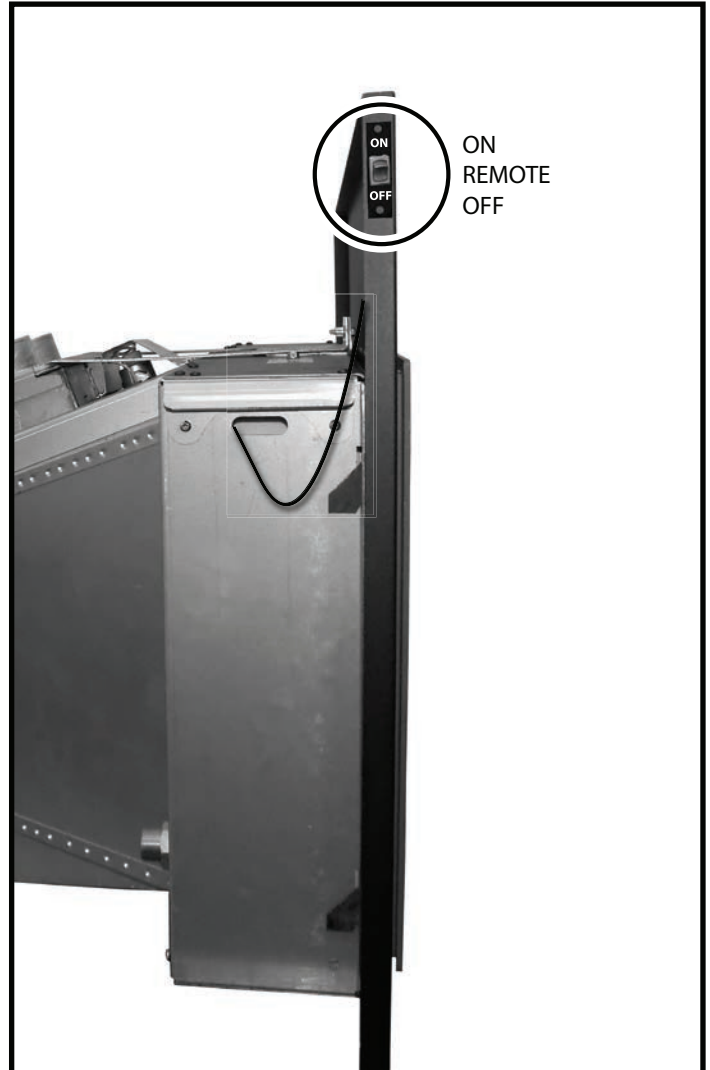

Figure 84: On Off switch for SIT units.
2. With the surround backing plate positioned in front of the fireplace, position the switch in behind the open slot in the backing plate and screw into place Figure 84.